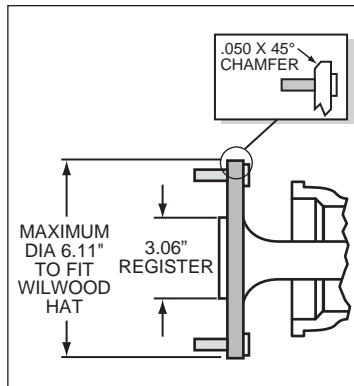

Figure 3. Axle Flange Maximum Dimension
- Maximum axle flange diameter must be no larger than 6.11" w/.050" x 45° chamfer (Figure 3).